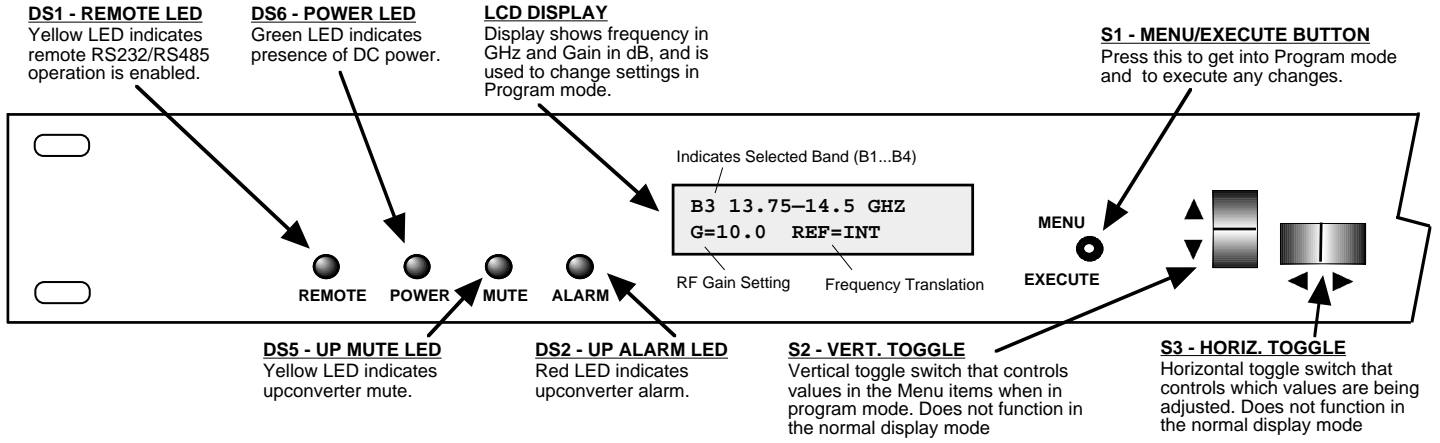

FIGURE 2.3 3115-41-184 W60 Front Panel Controls and Indicators
Figure 2.3 shows the front panel controls and indicators.
4. Be sure DS6 (green, DC Power) is on and DS2 (red, Alarm) is off (Figure 2.3).
2.6.1 Functions - This section describes operation of the front panel controls. There are three operator switches, the LCD display and alarm indicator LEDs. All functions for the equipment are controlled by these components. The functions are (see Figure 2.3):
Alarm indications appear on the LEDs (See figure 2.3).